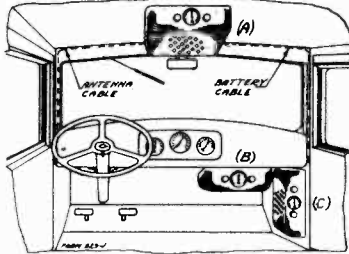

Fig. 1—General Mounting Positions
The top mounting or securing of the receiver to the roof of the car is the method of attachment for which this receiver is primarily designed—see Fig. 1 (A). The receiver is very low in height and will mount in back of the car header without obscuring front or rear vision. Less difficulty will be experienced with ignition noise when the set is mounted in this position.